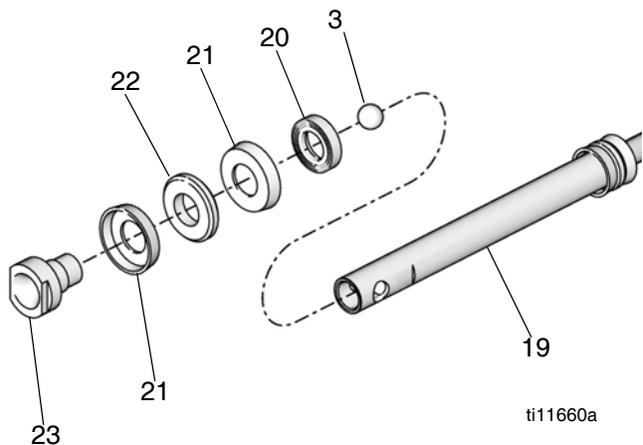

FIG. 17
- Lubricate the piston seals (21) and bearing (22) with no. 2 lithium-based grease. Install one piston seal (21) with the lips facing down, bearing (22), and second piston seal (21) with lips facing up on the piston (23). Install the backup washer (20) with the grooves facing down. See FIG. 17 on page 18.
- Place the ball (3) on top of the piston body (23) and screw the piston body and the fluid piston rod (19) together. Torque to 30-35 ft-lb (41-48 N•m). Screw the piston valve housing (29) onto the lower connecting rod (19). See FIG. 17 on page 18.
- Install the seal (51), with the lips facing down, in the displacement pump frame (36), then install bearing (31).